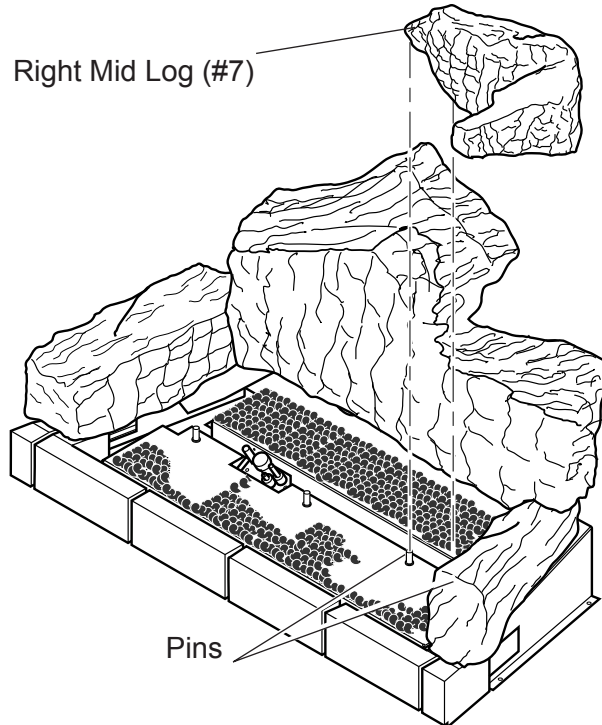

Figure 51 - Installing Right Mid Log (#7)
7. Place right mid log (#7) on two right pins on burner assembly. *See Figure 51.*